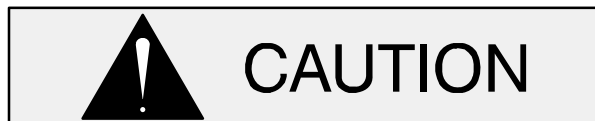

**Figure 4. Centering Impeller Within Pump Casing**
To verify the impeller positioning, measure the pump casing and impeller as shown in Figure 4. Use these measurements to calculate the required impeller location (dimension E). Add or remove impeller adjusting shims (11) until dimension E is obtained.